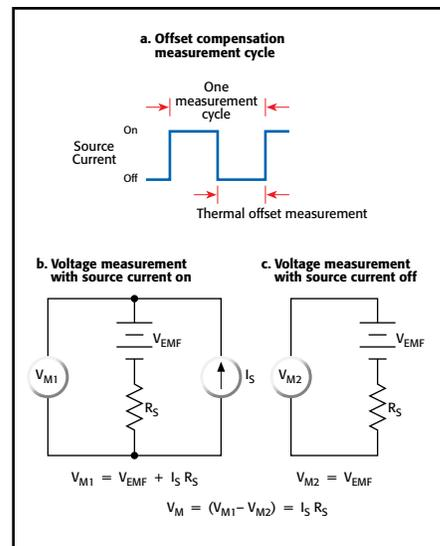

Figure 5a. Subtracting thermoelectric EMFs with Offset Compensation
- **Offset Compensation Technique (Figure 5a)** applies a source current to the resistance being measured only for part of the measurement cycle. When the source current is on, the total voltage measured by the instrument is the sum of the voltage due to the test current and any thermoelectric EMFs present in the circuit. During the second half of the measurement cycle, the source current is turned off and the only voltage measured is that due to the thermoelectric EMF. This unwanted offset voltage can now be subtracted from the voltage measurement made during the first half of the delta mode cycle.